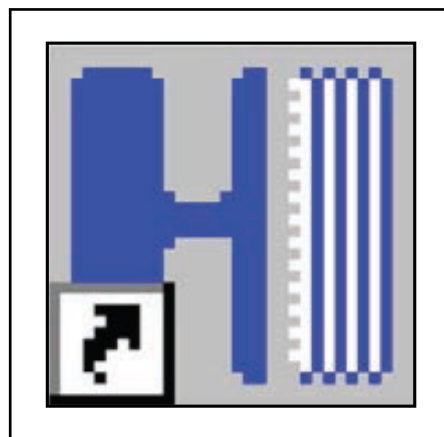

Figure 3 - Typical View of Hubner Software Icon
- 1.8. On the laptop, click the icon (see Figure 3) to access to the Hubner software program.